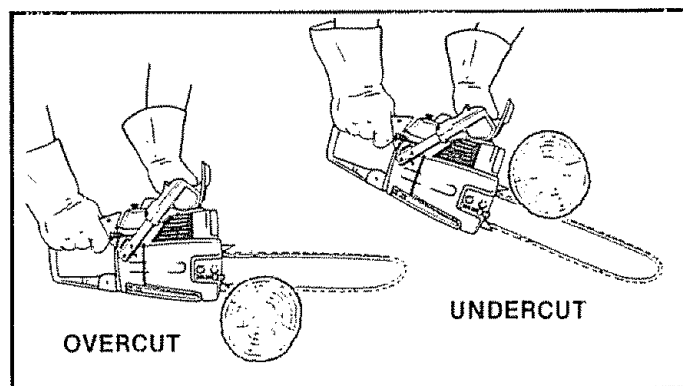

Figure 30
- Two types of cutting are used (Figure 30):